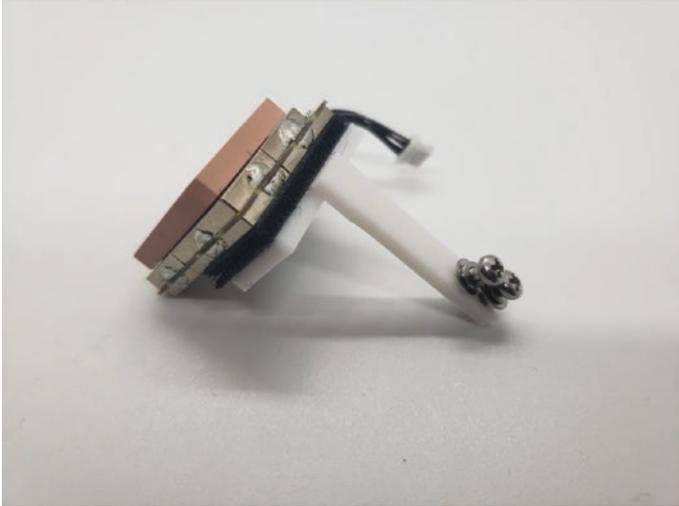

Figure 8-46. *Attach the GPS module to the GPS mount using Velcro*
7. Attach the GPS module to the GPS mount using a small piece of Velcro. Use scissors to cut the Velcro to size. See Figure 8-46.